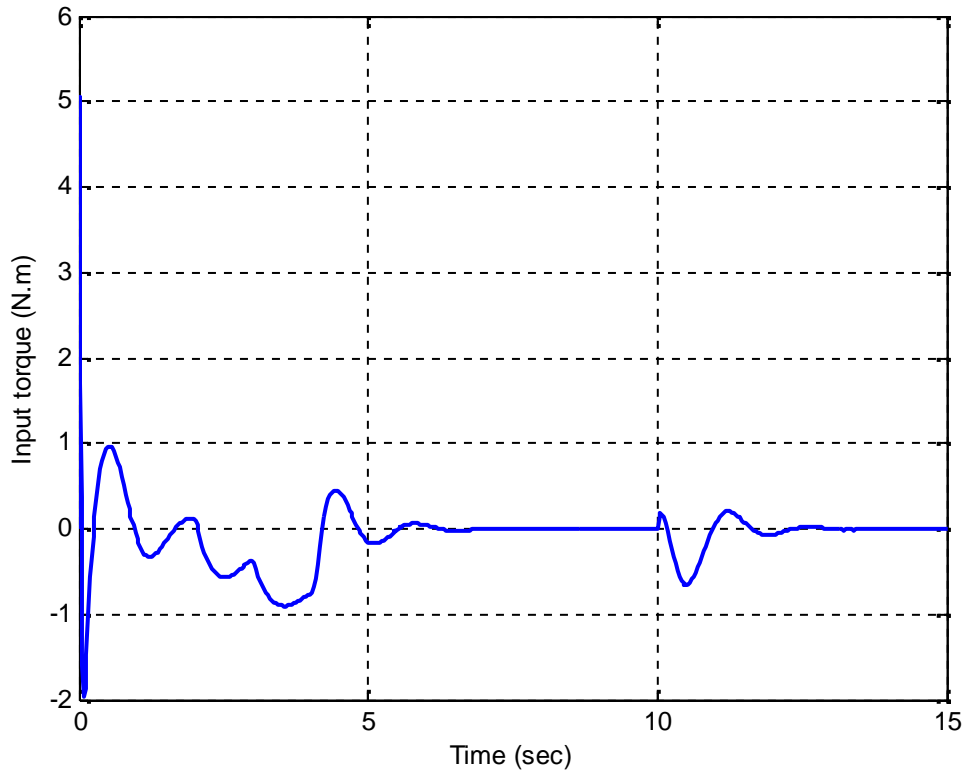

Figure 4.14 Driving motor torque
- The system model did not exceed the saturation limit of motor torque, so the motor can operate the system in easy way (Figure 4.14).